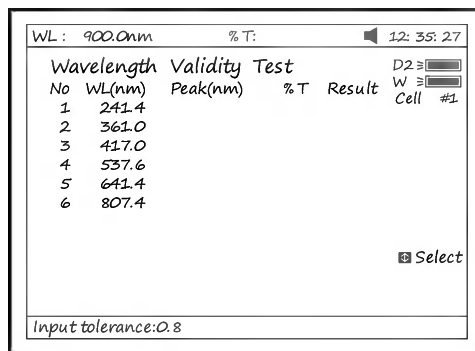

Fig 98
4. Press **【F3】** to set tolerance (Fig 98). Input the value by pressing the numeric keypad.